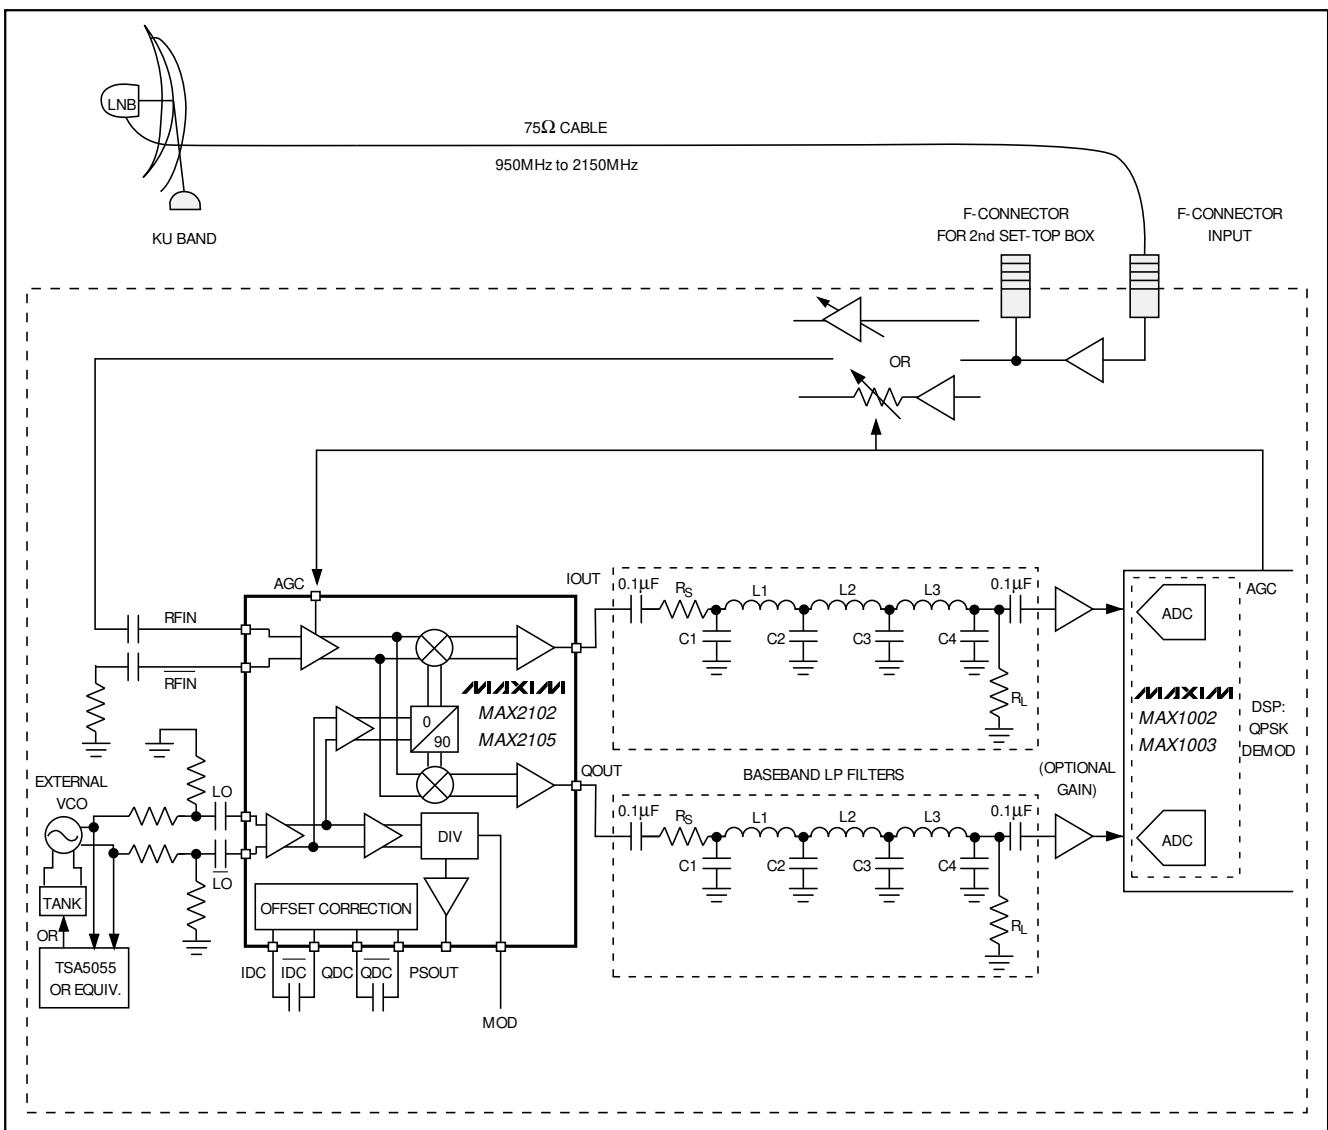

Figure 2. Typical Application
**Note:** Suggested types: Inductors: Coilcraft 1008CS, tolerance =  $\pm 5\%$ ; Capacitors: use tolerance =  $\pm 2\%$ . Refer to Figure 2 for circuit diagram.